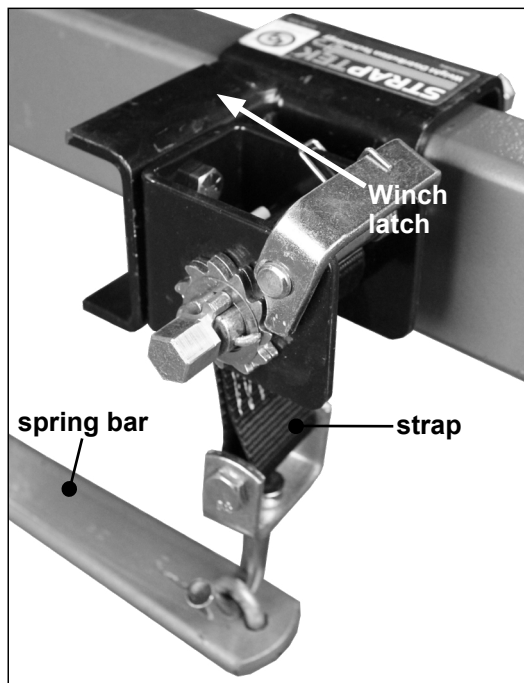

Fig. 4
6. Use a ratchet with a 3/4" socket to re-tighten strap until spring bar is again parallel to the A-frame (Fig. 4).
9. Once saddle bolts and jam nuts are properly tightened, use a ratchet with a 3/4" socket to re-tighten strap until the spring bar is again parallel to the A-frame (Fig. 4).